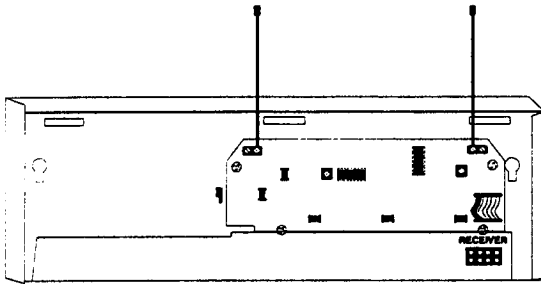

Figure 5. Installing the Receiver Module Antennas
- 5) Insert one antenna into the inside screw terminal of each terminal block and gently tighten the screws using a small pocket-size screwdriver (see Figure 5).